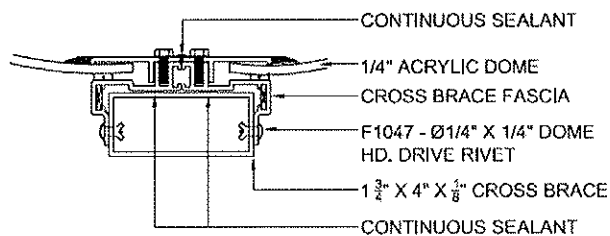

FIGURE 6
- 6A) FIGURE 6 SHOWS ATTACHMENT FOR MULTIPLE DOME ROOFS. ON MULTI-DOME ROOFS RUN TWO CONTINUOUS  $\frac{1}{4}$ " BEADS OF SILICONE ALONG CROSS BRACE AS SHOWN. AFTER ROOFS ARE INSTALLED RUN A CONTINUOUS BEAD OF SILICONE ALONG ABUTMENT OF DOME ROOF MODULES.